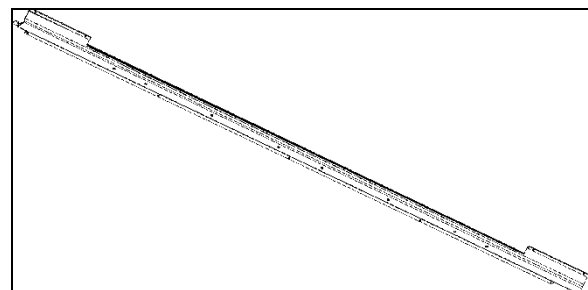

FIGURE 103: LED INDIRECT LIGHTING IN OVERHEAD COMPARTMENT
2. Using a Phillips head screwdriver, unscrew and remove the existing LED strip (FIGURE 103).